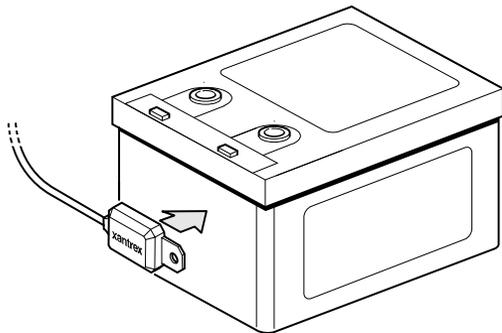

Figure 13 BTS Mounted on the Battery Case
5. Press the sensor firmly against the clean side of the battery to fix it in place, as shown in Figure 13.